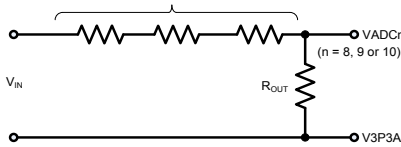
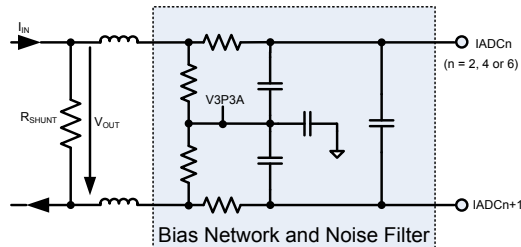
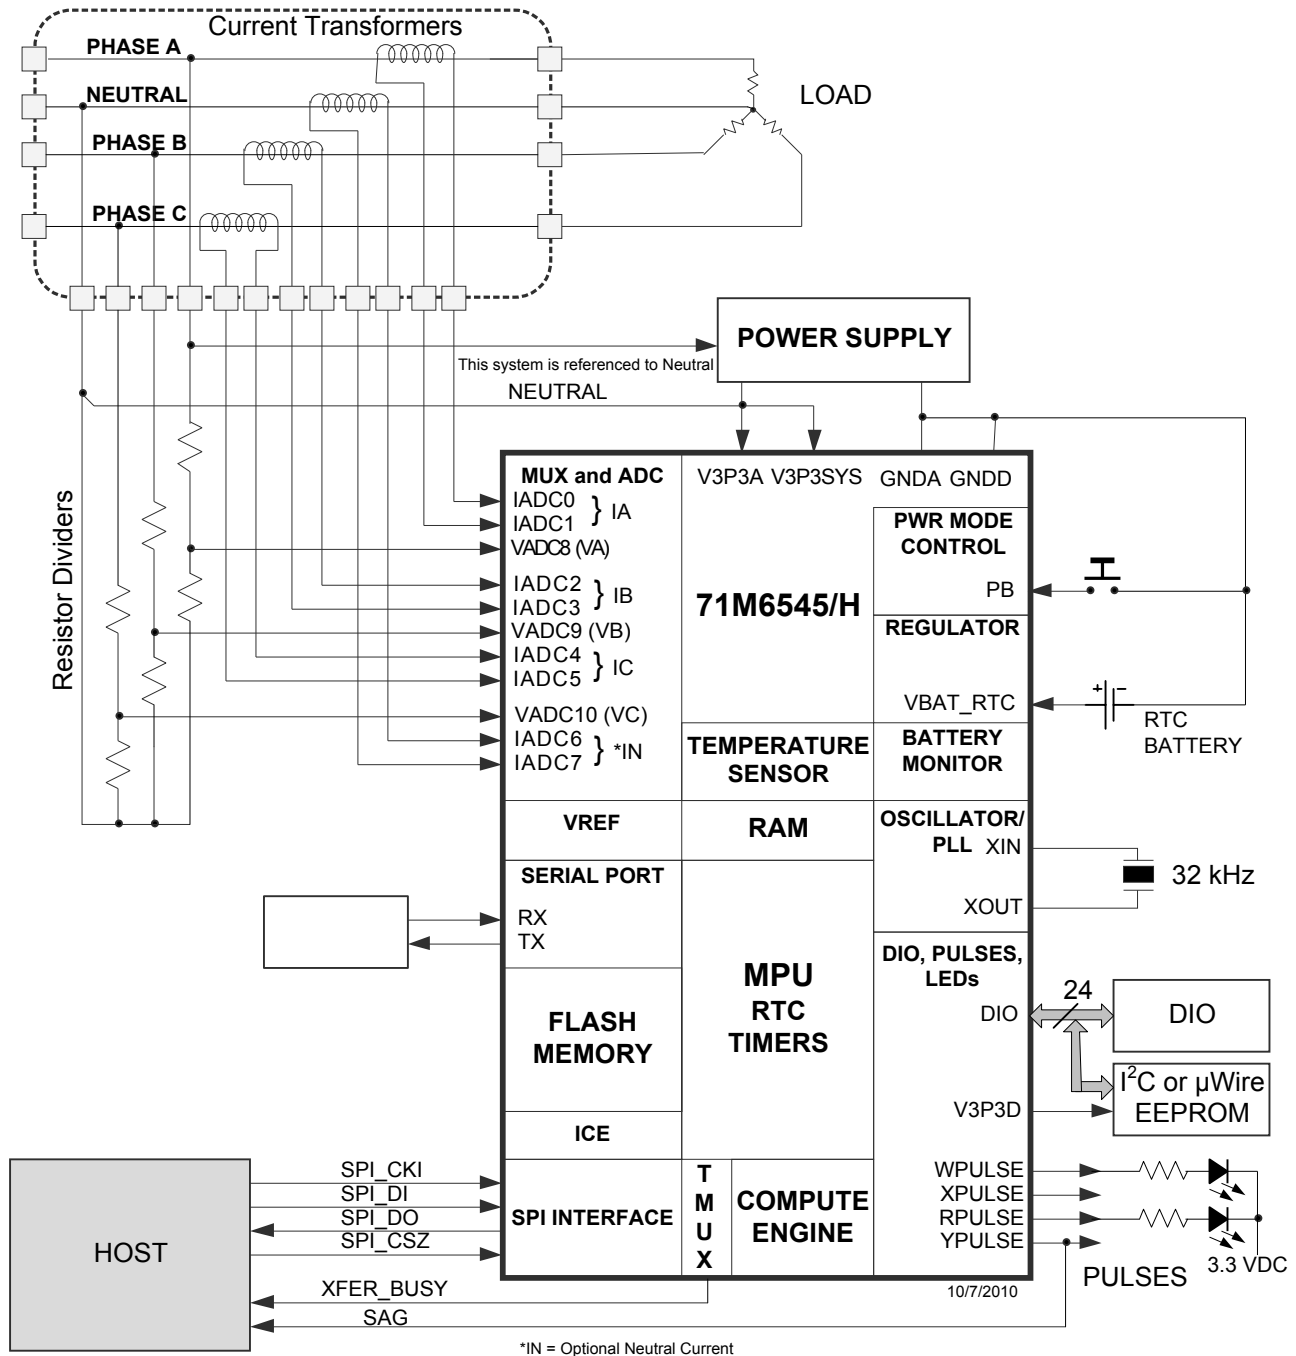

Figure 23: Resistive Voltage Divider (Voltage Sensing)
Figure 26: Differential Resistive Shunt Connections (Current Sensing)
Figure 28. System Using Current Transformers
Figure 23 through Figure 26 show voltage-sensing resistive dividers, current-sensing current transformers (CTs) and current-sensing resistive shunts and how they are connected to the voltage and current inputs of the 71M6545/H. All input signals to the 71M6545/H sensor inputs are voltage signals providing a scaled representation of either a sensed voltage or current.
Figure 28 shows a poly-phase system using four current transformers to support optional Neutral current sensing for anti-tamper purposes. The Neutral current sensing CT can be omitted if Neutral current sensing is not required. The system is referenced to Neutral (i.e., the Neutral rail is tied to V3P3A and V3P3SYS).
for the voltage sensors (see Figure 23) determine the behavior of the voltage division ratio with respect to temperature. It is recommended to use resistors with low temperature coefficients, while forming the entire voltage divider using resistors belonging to the same technology family, in order to minimize the temperature dependency of the voltage division ratio. The resistors must also have suitable voltage ratings.
This section discusses metrology temperature compensation for meter designs where Current Transformer (CT) sensors are used, as shown in Figure 28.
Referring to Figure 28, the VADC8 (VA), VADC9 (VB) and VADC10 (VC) voltage sensors are directly connected to the 71M6545/H. Thus, the precision of the voltage sensors is primarily affected by VREF in the 71M6545/H. The temperature coefficient of the resistors used to implement the voltage dividers for the voltage sensors (see Figure 23) determine the behavior of the voltage division ratio with respect to temperature. It is recommended to use resistors with low temperature coefficients, while forming the entire voltage divider using resistors belonging to the same technology family, in order to minimize the temperature dependency of the voltage division ratio. The resistors must also have suitable voltage ratings.
Table 58: GAIN_ADJ_x Compensation Channels (Figure 3, Figure 28, Table 2)